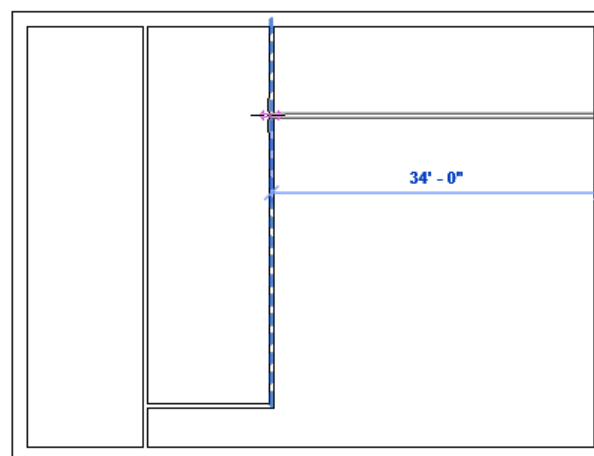

Figure 3-85 Horizontal wall created at the distance of 10' from the outer exterior wall
- Press and hold the SHIFT key and move the cursor horizontally toward left until it reaches the vertical interior wall. Next, click to specify the endpoint of the wall, as shown in Figure 3-85. Now, press ESC twice to finish the sketch of the wall.